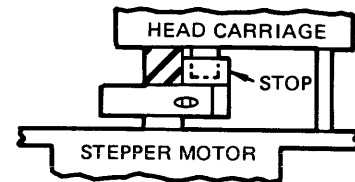

Figure 1-6. Head Carriage Outer Stop Position
- c. Adjust "boss" of outer stop against head carriage and tighten screw to 54 ± 2 oz. in. See Figure 1-6.